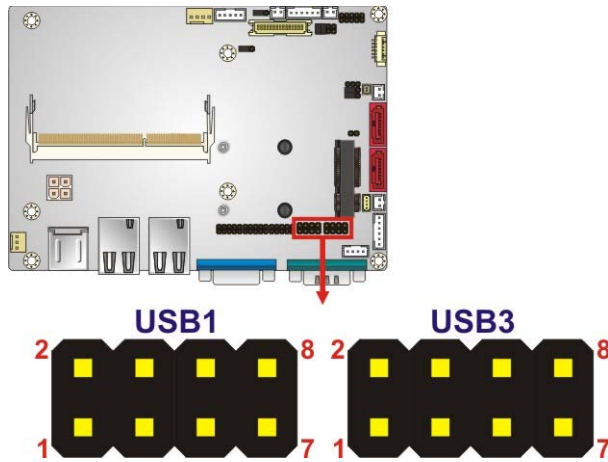

Figure 3-22: USB Connector Locations
- CN Location:** See **Figure 3-22**